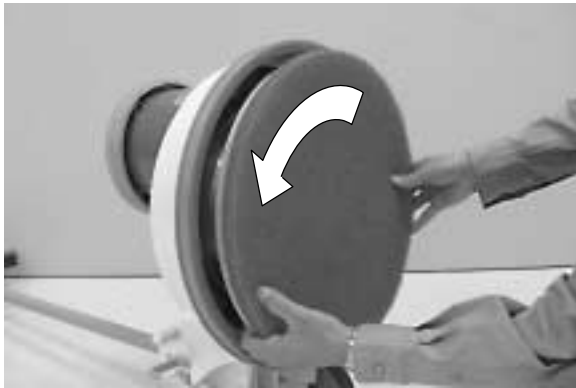

FIG. 7
- Position the pad driver/brush on the drive motor hub and turn it counter-clockwise to engage (Figure 7).